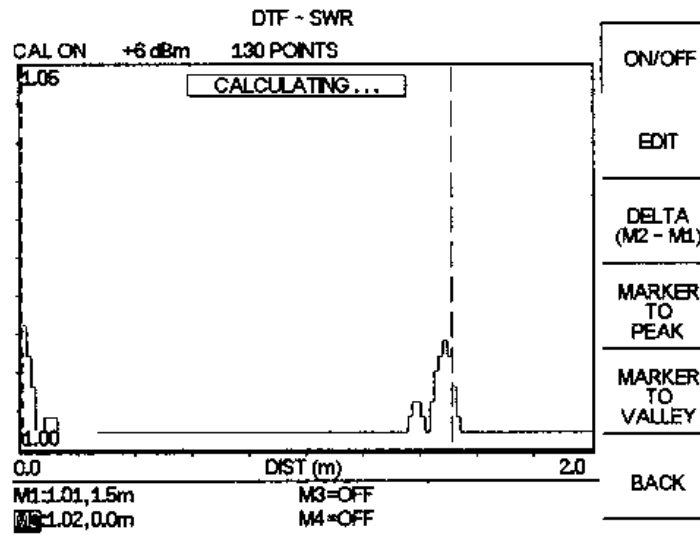

Figure 4-15. DTF - SWR Measurement Results (cable quality)
Step 30. Press the **MARKER TO PEAK** soft key to find the maximum SWR or Return Loss reading. (See Figures 4-15 and 4-16.)